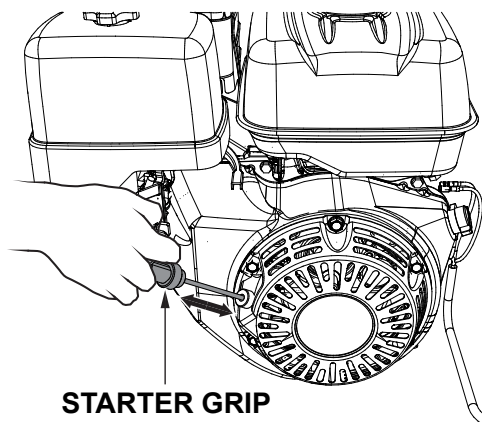

Figure 14. Starter Grip
7. Slowly pull the **starter grip** (Figure 14) until resistance is felt, then pull briskly and smoothly to start the engine. Gently return the starter grip to its original position.